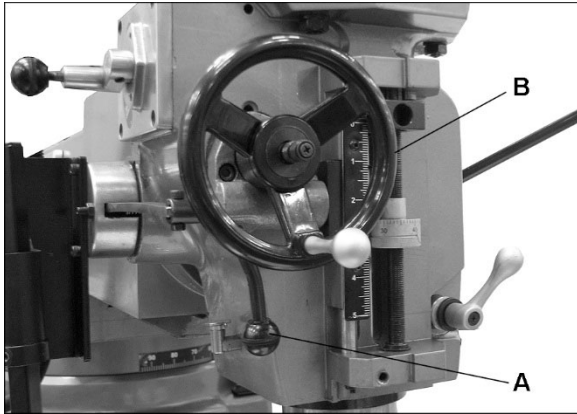
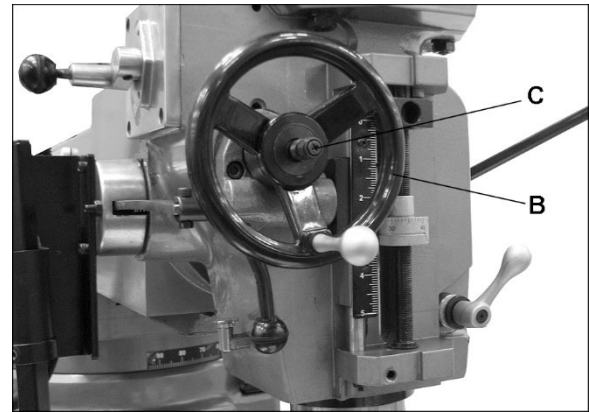

Figure 8-6
Figure 8-7
The *Feed Trip Cam Lever* (A, Figure 8-6) is located behind *Manual Fine Feed Handwheel* (B). It engages the overload clutch on pinion shaft when positioned to the left.
The *Feed Direction Control* (C, Figure 8-7) determines whether power feed will move up, down, or not move at all. The position of knob depends upon direction of spindle rotation (see sect. 8.2, Motor Direction Switch). Position of the control may be changed with the system stopped or running. If the control does not engage easily, move fine feed handwheel (B, Figure 8-7) back and forth to aid engagement.
When the controls are set for the *Fine feed using handwheel* position (see Table 2), the *Fine Feed Handwheel* (B, Figure 8-6) can be used for manual fine feed control in either upward or downward direction of quill. Set feed direction control (C, Figure 8-7) at neutral position.